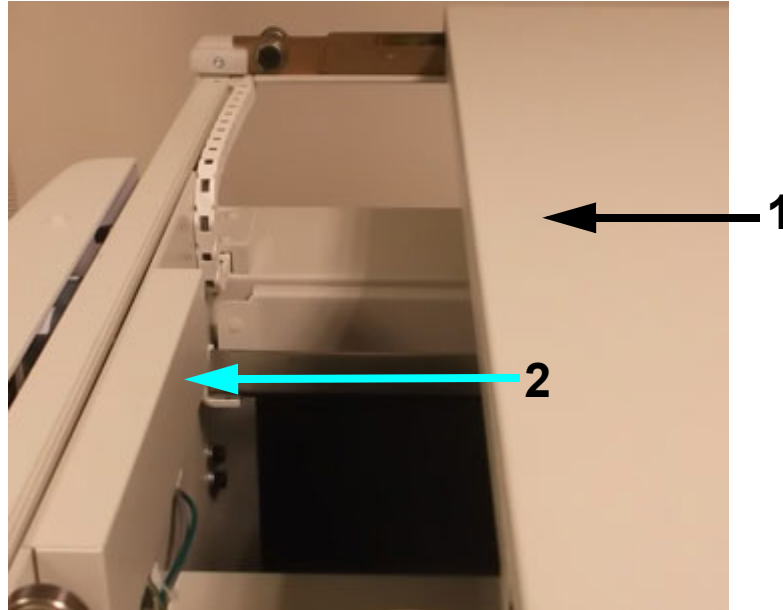

Figure 6-22. Switch Access
- 3 Slide table top (1 in Figure 6-22) remove the cover (2) to expose switch assembly.